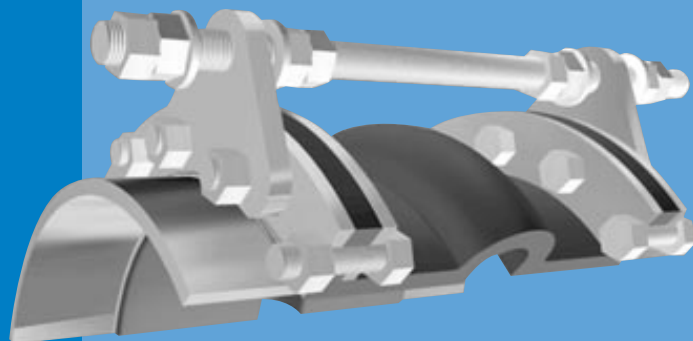

Figure 2: Limit/Control Rod
Figure 2 — Known as a **LIMIT/CONTROL ROD**, this control unit configuration is used to allow specified pipe expansion (expansion joint axial compression) and pipe contraction (expansion joint axial extension) movements. Nuts shall be field set to no more than the maximum allowable extension or compression of a rubber expansion joint. Refer to Tables 2, 3 or 4 in this Manual.
1. Control rod plate O.D. installed dimension is based on a **maximum** O.D. PROCO would supply. (Figures 2 and 3.)